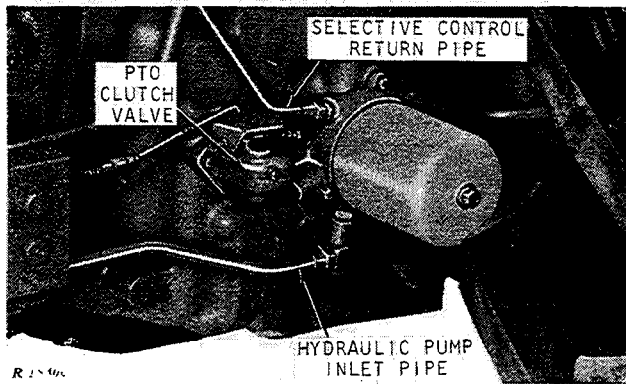

Fig. 13-PTO Clutch Valve and Hydraulic Pipes
10. Disconnect selective control valve return oil pipe and hydraulic pump inlet pipe from oil filter relief valve housing (Fig. 13).